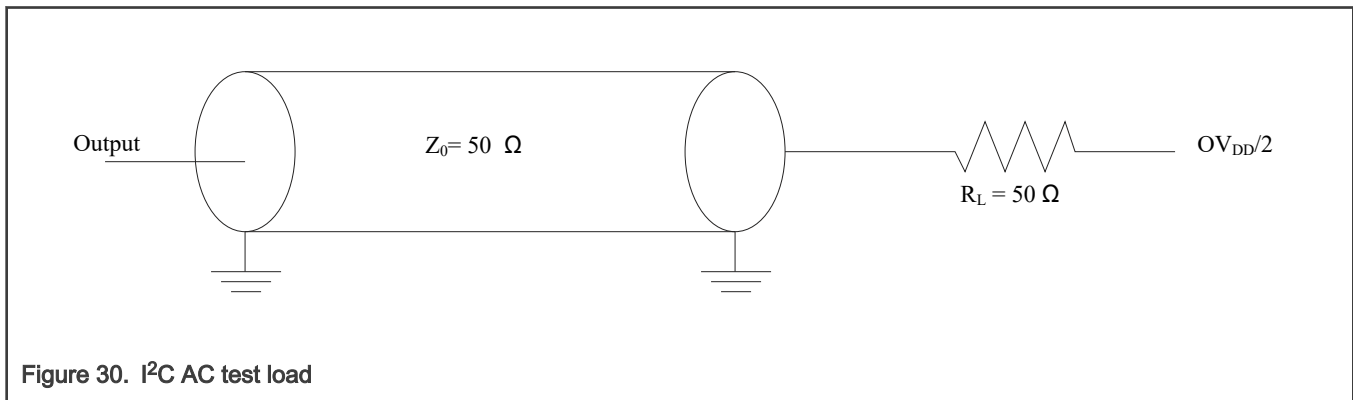

Figure 30. I²C AC test load
5. The symbols used for timing specifications herein follow these patterns: t_{(first two letters of functional block)(signal)(state)(reference)(state)} for inputs and t_{(first two letters of functional block)(reference)(state)(signal)(state)} for outputs. For example, t_{I2DVKH} symbolizes I²C timing (I2) with respect to the time data input signals (D) reaching the valid state (V) relative to the t_{I2C} clock reference (K) going to the high (H) state or setup time. Also, t_{I2SXKL} symbolizes I2C timing (I2) for the time that the data with respect to the START condition (S) went invalid (X) relative to the t_{I2C} clock reference (K) going to the low (L) state or hold time. Also, t_{I2PVKH} symbolizes I2C timing (I2) for the time that the data with respect to the STOP condition (P) reaches the valid state (V) relative to the t_{I2C} clock reference (K) going to the high (H) state or setup time.
6. See Figure 30.